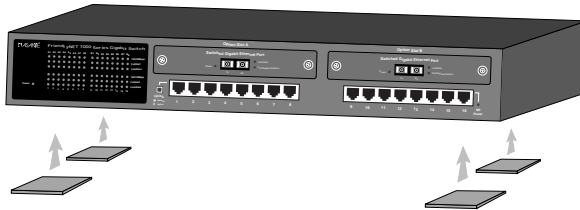

Figure 2-9 Desktop mounting
- 1 Attach the four rubber feet (supplied) to the bottom of each corner on the Switch. See Figure 2-9.